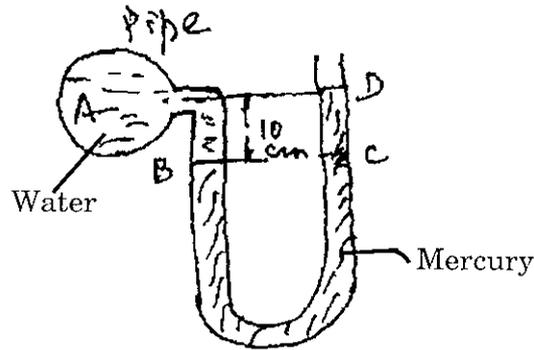

Fig. 4
- (ii) Explain how the manometers are classified. (4)
- (iii) A U-tube manometer is used to measure pressure of water in a pipe line which is in excess of atmospheric pressure as shown in Fig. 4. Determine the pressure of water in the pipe line. Density of water is 1000 kg/m^3 and specific gravity of mercury is 13.6. (6)